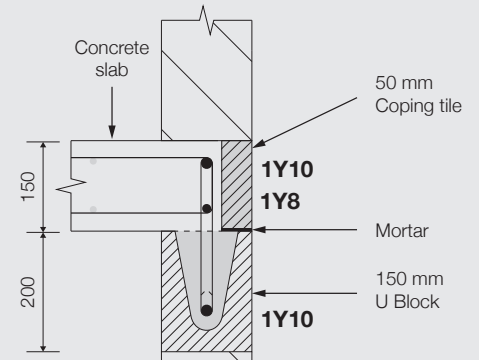

Figure 4
- The horizontal ties resting on top of the load bearing blockwork are reinforced by 2Y10 minimum (Figure 4).
- Horizontal ties on top of load bearing block walls (Figures 4 & 8).
- Eliminate traditional shuttering (Figure 4).